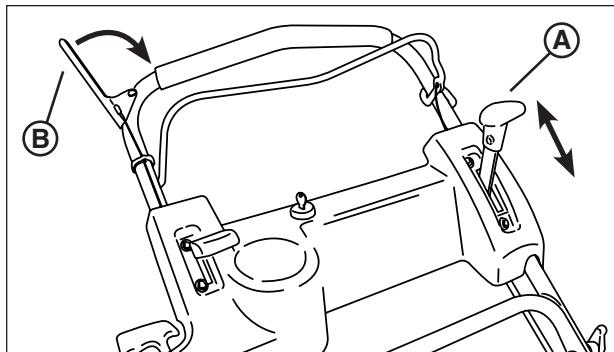

Figure 4: Mower drive controls
2. Move the ground speed control (**A**, **Figure 4**) to the desired speed position.